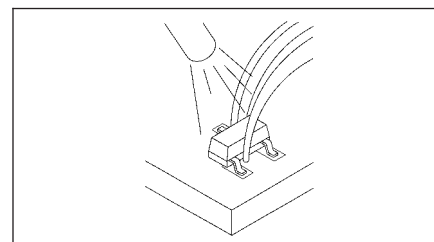

Figure 2 Melt All Joints
6. Position tip approximately 0.5 cm away from component. (See Figure 2.)
7. Direct hot air over component and heat until COMPLETE solder melt is observed on ALL solder joints. (See Figure 2.)